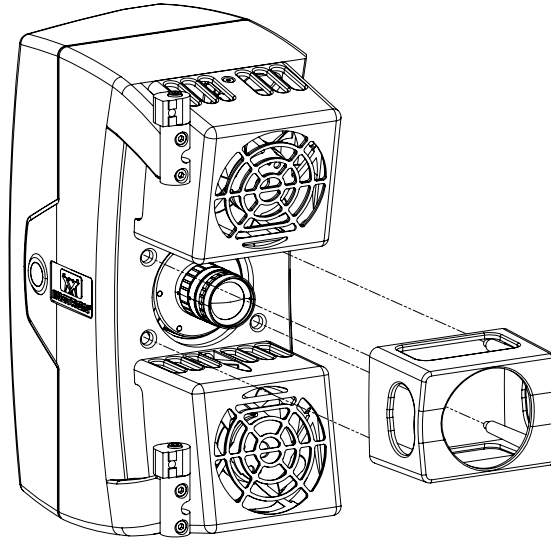

Figure 22. Lens cover
1. Remove the lens cover (AVE3 only; there is no lens cover on the SVE3) by gently pulling it away from the lens (see Figure 22 on page 53). You can now read the focal length of the lens printed on the body.
4. Replace the lens cover (AVE3 only), shown in Figure 22 on page 53.